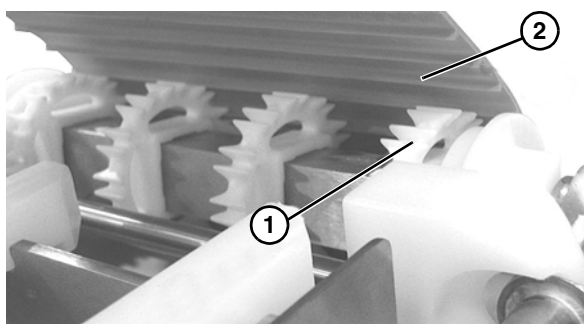
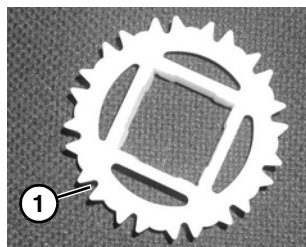

Figure 10
Figure 11
6. Align the sprockets (**Figure 10, item 1**) with the cogged drive teeth (**Figure 10, item 2**) on the inside of the belt.
NOTE: The cogged drive teeth on the belt (Figure 10, item 2) should engage the deep grooves of the sprocket (Figure 11, item 1).